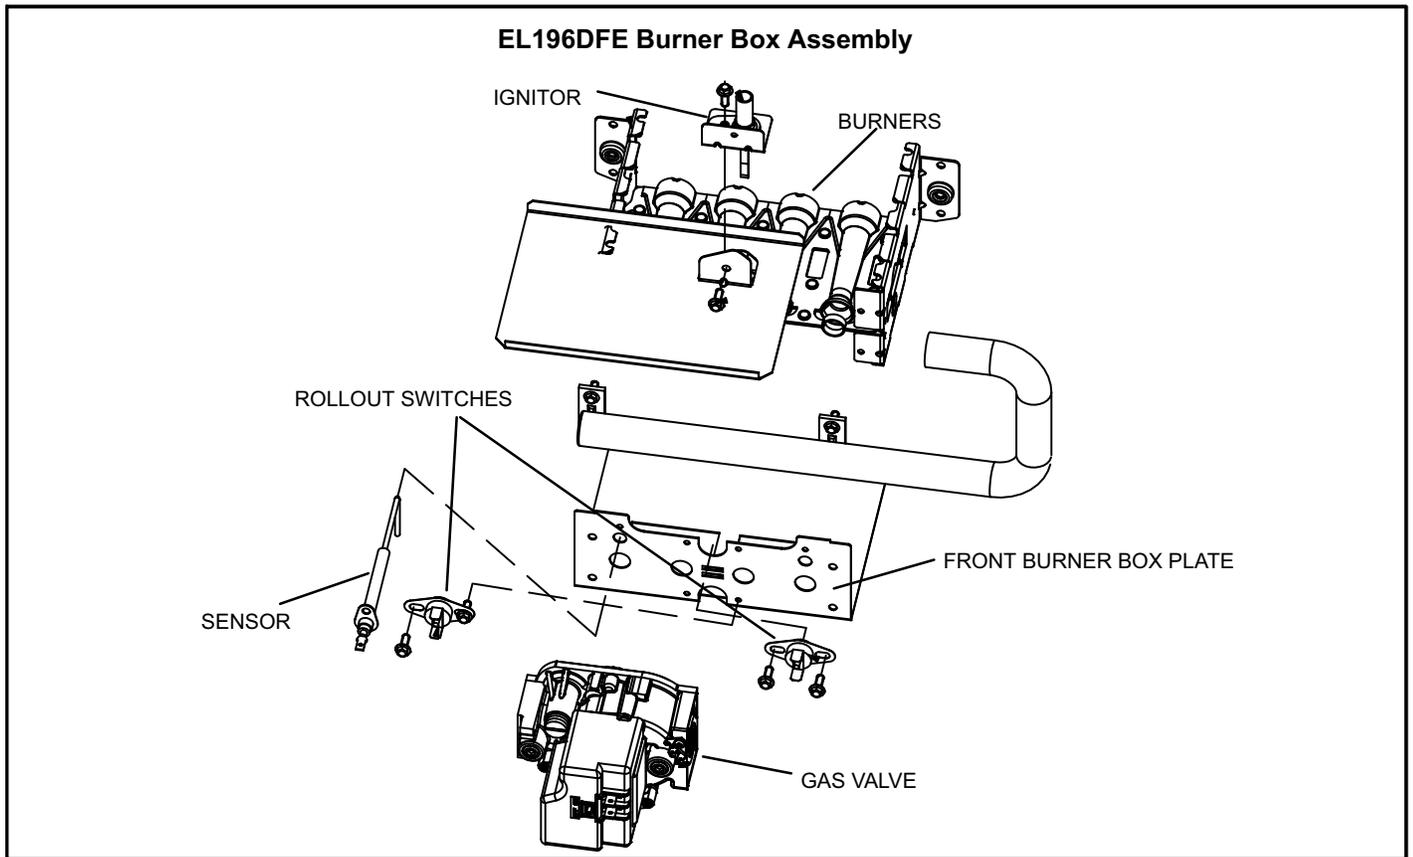

FIGURE 5
The hot surface ignition control system consisting of an integrated control (figure 3 with control terminal designations in tables 1, 2 and 3), sensor and ignitor (figure 5). The integrated control and ignitor work in combination to ensure furnace ignition and ignitor durability. The integrated control, controls all major furnace operations. The integrated control also features a RED LED for troubleshooting and two accessory terminals rated at (1) one amp. See table 4 for troubleshooting diagnostic codes. The nitride ignitor is made from a non-porous, high strength proprietary ceramic material that provides long life and trouble free maintenance.
1. Flame Rollout Switches (Figure 5)
5. Flame Sensor (Figure 5)
6. Ignitor (Figure 5)